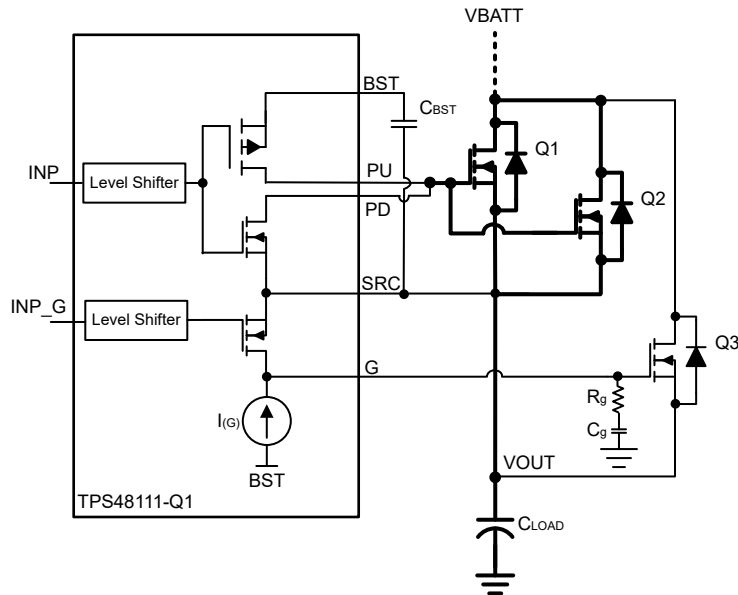

图 9-7. Capacitor Charging Using Gate Slew Rate Control of Precharge FET
The TPS4811-Q1 integrates precharge gate driver (G) with a dedicated control input (INP_G). This feature can be used to drive a separate FET that can be used to precharge the capacitive load. 图 9-7 shows the precharge FET implementation for capacitive load charging using TPS4811-Q1. An external capacitor C_{g} reduces the gate turn-ON slew rate and controls the inrush current.